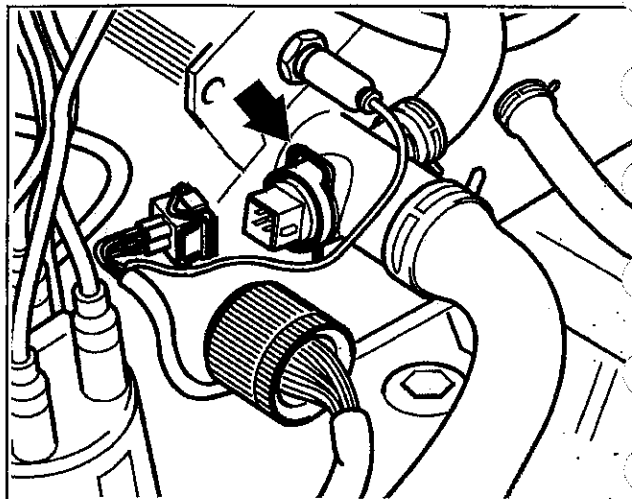

Fig. 26. ECT sensor retaining clip (arrow) on 4-cylinder engine.
3. Remove the sensor retaining clip and pull the sensor from its housing. See Fig. 26.